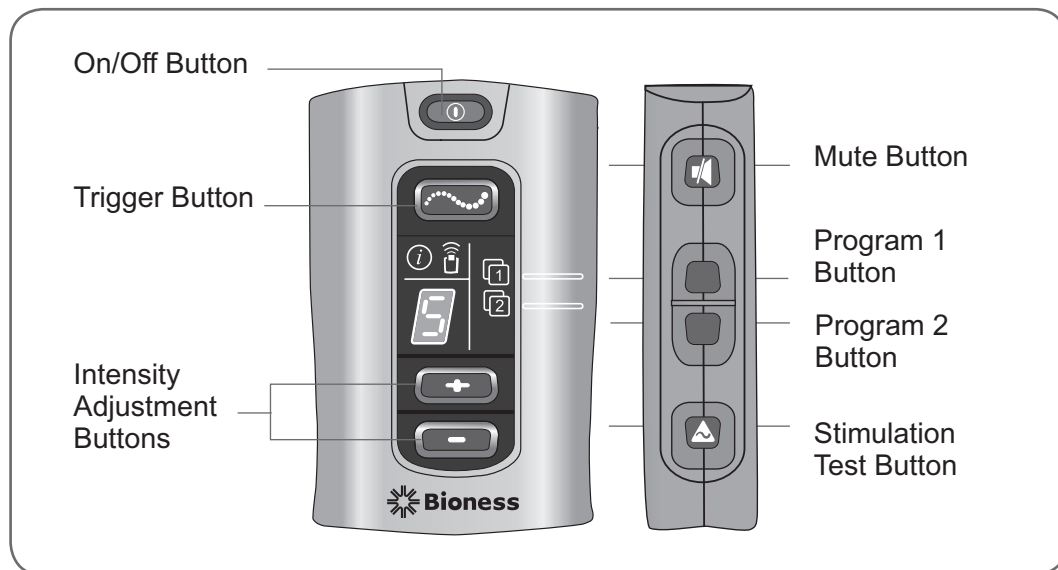

Figure 9-1: Operating buttons.
The  stimulation test button is for testing whether the Orthosis is positioned correctly on the arm. The button is located on the side of the Control Unit. See Figure 9-1.
2. Press the Program 2 button. See Figure 9-1. When Program 2 is selected, the  Program 2 indicator will be GREEN.